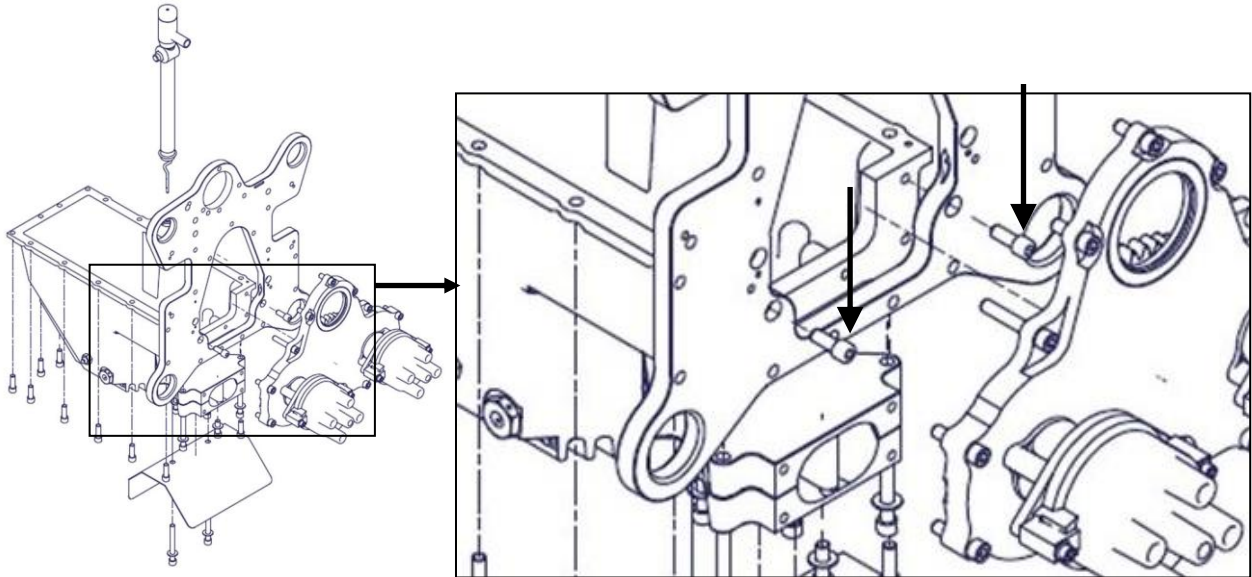

Figure 51 – Hidden Sump Screws
- Figure 51 shows 2 hidden screws which hold the sump to the engine mount plate. These screws can only be accessed by removing the timing gearbox. Note that these screws have been omitted on later model engines to allow the sump to be removed without first removing the gearbox.